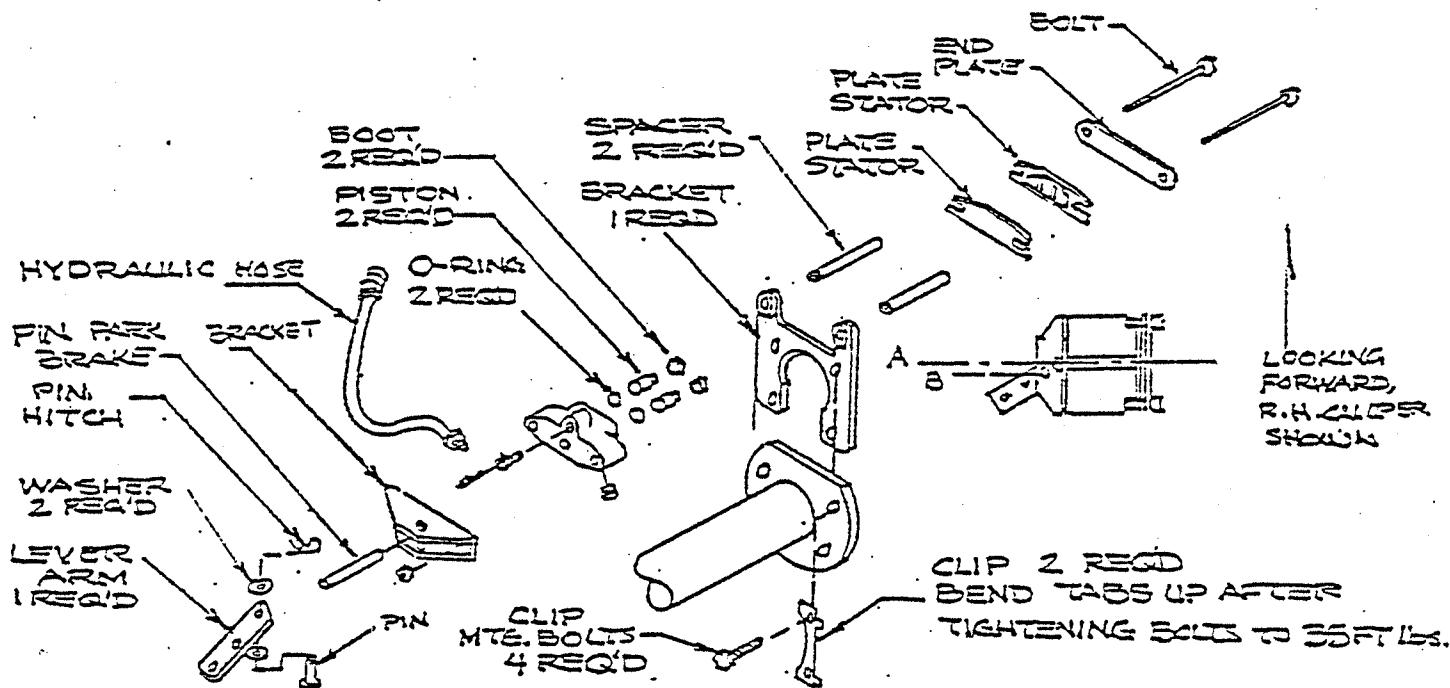

FIGURE 2
7. It is only necessary to remove one bolt and spacer. (Figure 2)
8. Remove pads. (Figure 2)
REPLACING BRAKE PADS (REFERENCE FIGURE 2)